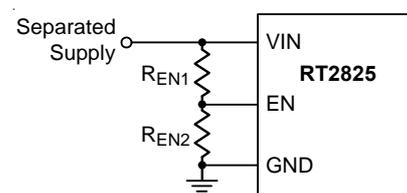
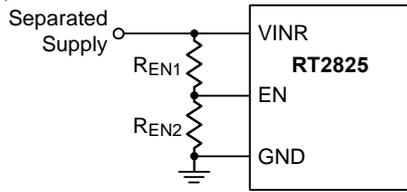
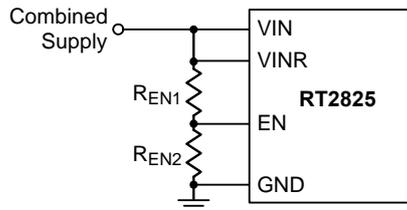

Figure 4. Resistor Divider for VIN UVLO Setting
Figure 5. Resistor Divider for VINR UVLO Setting, $V_{INR} \geq 4.5V$
Figure 6. Resistor Divider for VIN and VINR UVLO Setting
The EN pin can also be applied to adjust its Under-Voltage Lockout (UVLO) threshold with two external resistors divider from the both input VINR and VIN pins used together or separately, and the application structures can refer to Figure 4, Figure 5, and Figure 6.
Under above application structures, the adjustable UVLO function of EN pin allows to achieve a secondary UVLO on VIN pin, a higher UVLO on VINR pin or even a common UVLO on both VINR and VIN pins. For example, if the EN pin is configured as Figure 5 and the output voltage is set to a higher value 10V. The device may shut down after soft-start sequence is over, and the reason for the result is that the V_{OUT} is still lower than its set target during the V_{INR} rising period even though V_{INR} has already risen to its internal UVLO threshold 4V. To prevent this situation, an adjustable UVLO threshold from EN pin is useful to avoid such high output transfer condition. The exact UVLO thresholds can be calculated by Equation (3). The setting V_{OUT} is 10V and V_{INR} is from 0V to 18V. When V_{INR} is higher than 12V, the device is triggered to enable the converter. Assume $R_{EN1} = 56k\Omega$. Then,